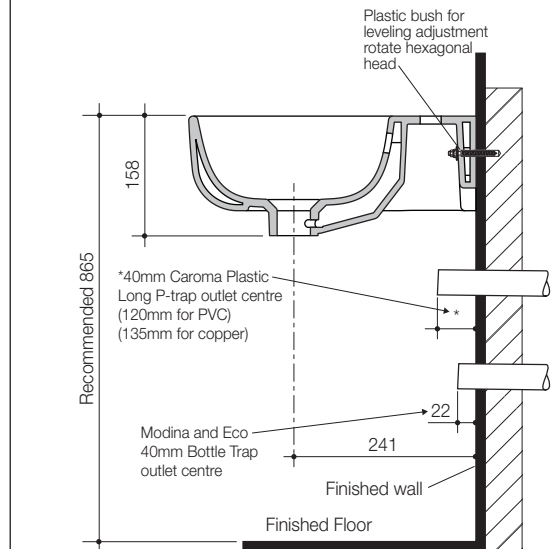

Fig. 3
- 4- Locate basin onto the Fixing Screws on the wall. Insert Plastic Bushes, Washers and fasten to wall with Fixing Nut to complete assembly as detailed in **Fig. 3**.
- 5- The Plastic Bush allows for leveling adjustment if required by rotating the hexagonal head bush, the basin will be slightly raised or lowered as shown in **Fig. 3**.